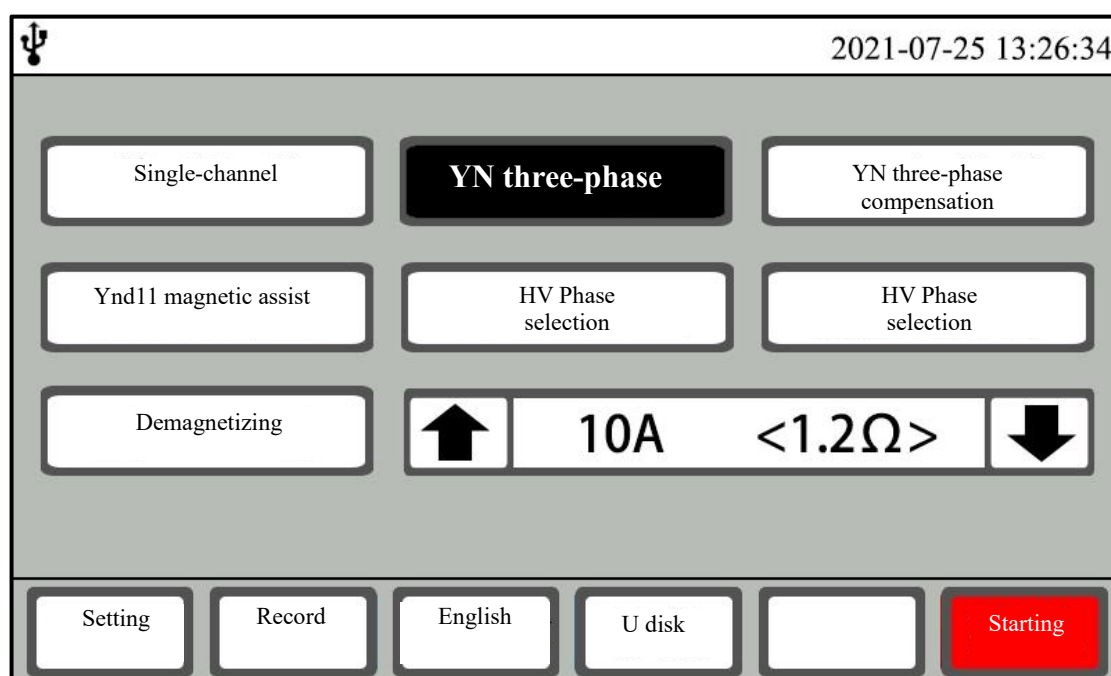

figure 7
The company LOGO interface will be displayed on the display, which will be automatically skipped for about 3 seconds, and the main interface for entering the selection setting is shown in Figure 7:
2. **Measurement method selection:** The display screen shows the interface of Figure 7, at which time the **desired measurement method** can be **selected** by tapping the test mode option.
4. **Test current selection:** The display screen shows the interface of Figure 7, at this time, the required measurement current can be selected by tapping the **current selection up and down arrow** keys, and each time it is touched, the display screen will be displayed in a loop The corresponding test current and the maximum resistance of the test at the corresponding current. (In the case of meeting the resistance test range, a larger current should be used as much as possible but the rated power of the specimen should also be considered, and the test exceeding the rated power of the specimen can cause damage to the specimen.) The fever of the test product also has a certain impact on the test data and should be considered comprehensively).)
5. **Parameter settings:** The display screen shows the interface of Figure 7, at this time, you can enter the parameter setting interface as shown in Figure 8 by tapping the **"Settings"** button. In this interface, you can set the temperature of the test product, the conversion temperature of the test product, the time interval of data